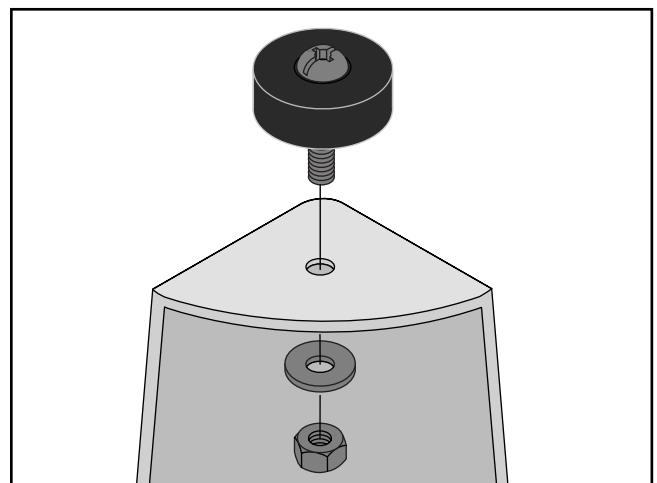

Figure 15. Rubber feet installation.
1. Using a 10mm wrench and a Phillips head screwdriver, secure each rubber foot to the stand legs with the Phillips head screws, the hex nuts, and the flat washers (**Figure 15**).